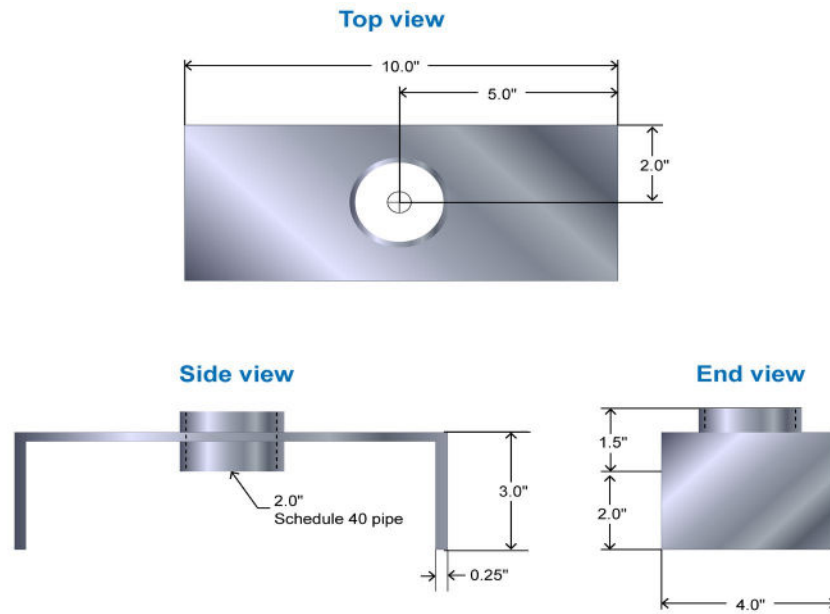

Figure 3.2.2b Float Support Fabrication
2. Mount float support at the bottom of the tank. Ensure NPT collar and anchor are aligned. For float support fabrication (See Figure 3.2.2b).